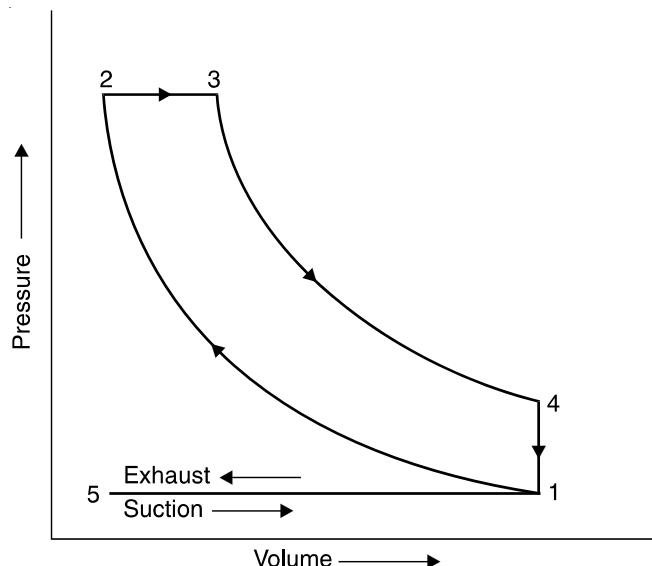

**Fig. 5.34.** Four stroke Diesel cycle engine.
**Diesel engines (four stroke cycle).** As is the case of Otto four stroke; this cycle too is completed in four strokes as follows. (Refer Fig. 5.34).